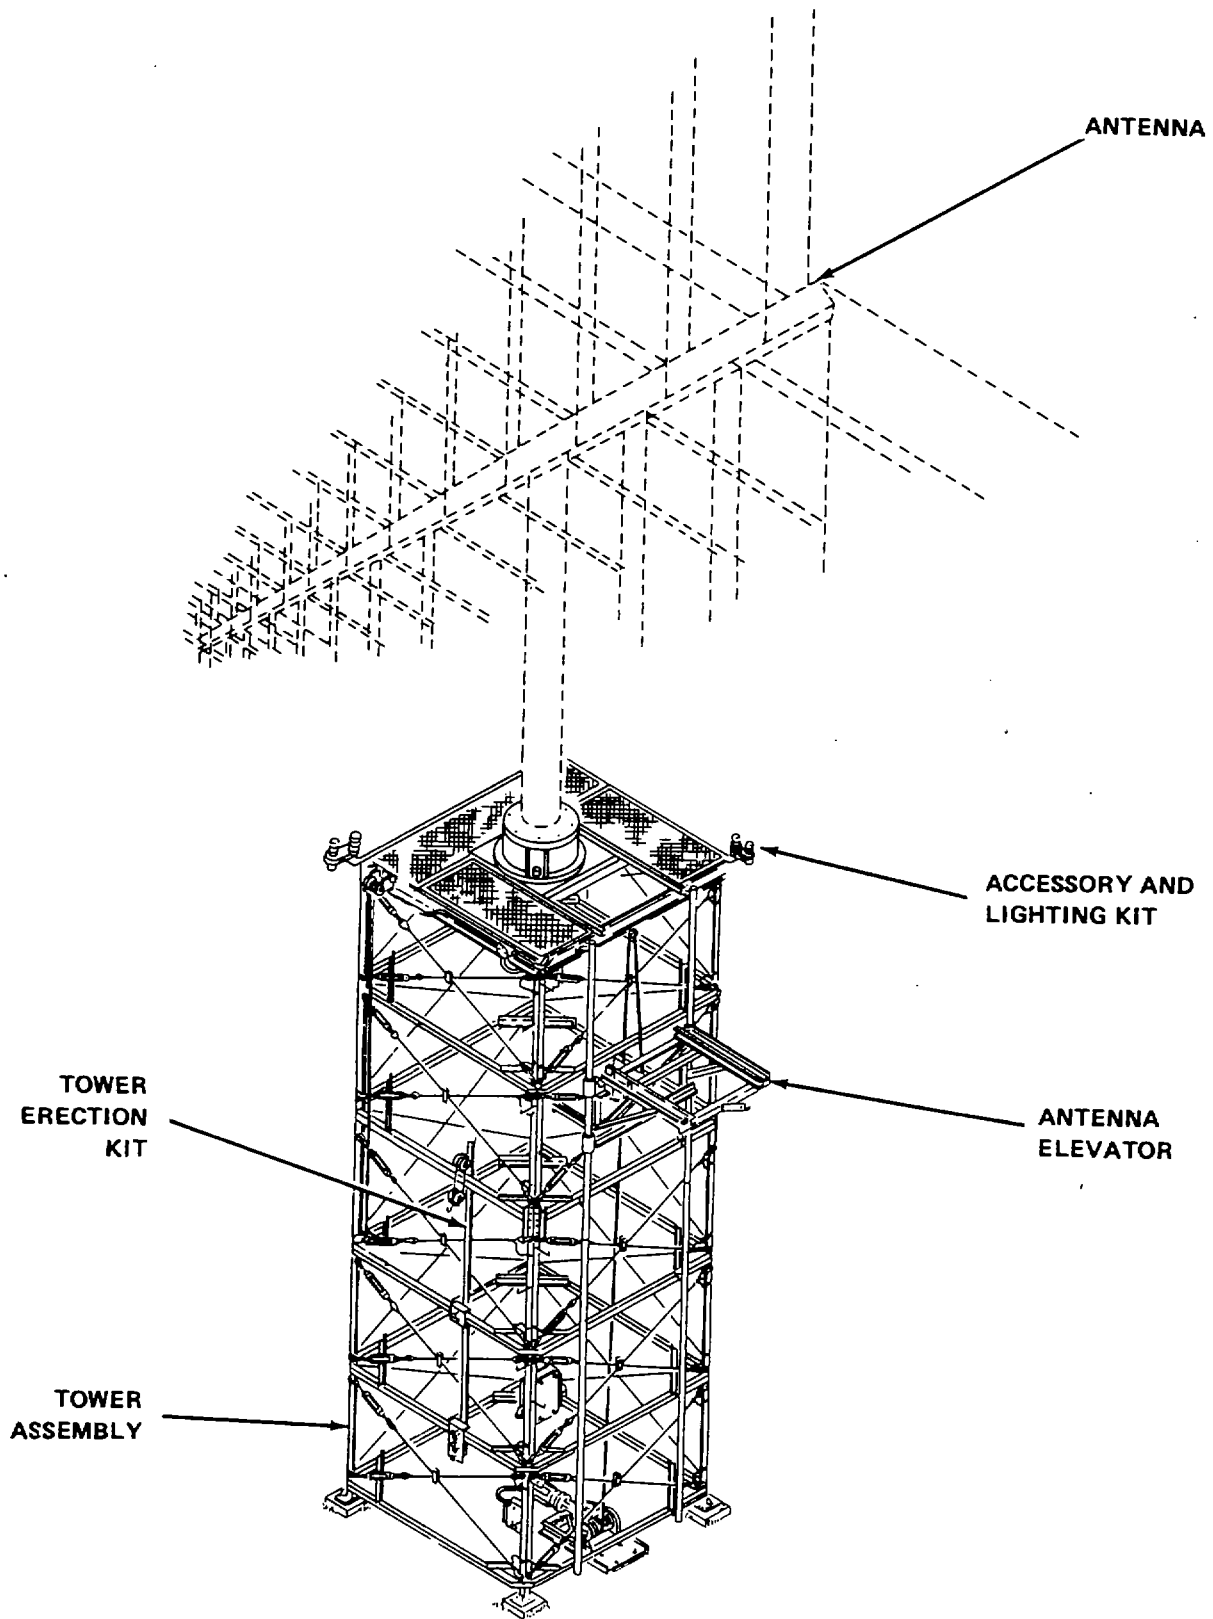

Figure 1-1. Antenna Tower TS-9A
**1-1. SCOPE.** This manual provides organizational and direct support instructions for the installation and maintenance of Antenna Tower TS-9A (figure 1-1). A repair parts and special tools list is also included.
*a. Tower Assembly Kit.* The tower assembly kit consists of all materials needed to assemble a complete 25-foot galvanized steel, self-supporting (free standing) tower (figure 1-1). The AN/GSA-131(V)1 or AS-2304/G antenna is mounted on top of the tower. The tower kit contains square cross sections comprised of structural steel angle legs, square tubular steel horizontal braces, and pretensional diagonal cable braces. Each structural member is galvanized to resist corrosion. Tension braces, when installed, practically eliminate any undesirable tower deflection due to high wind shear or antenna overturning loads.